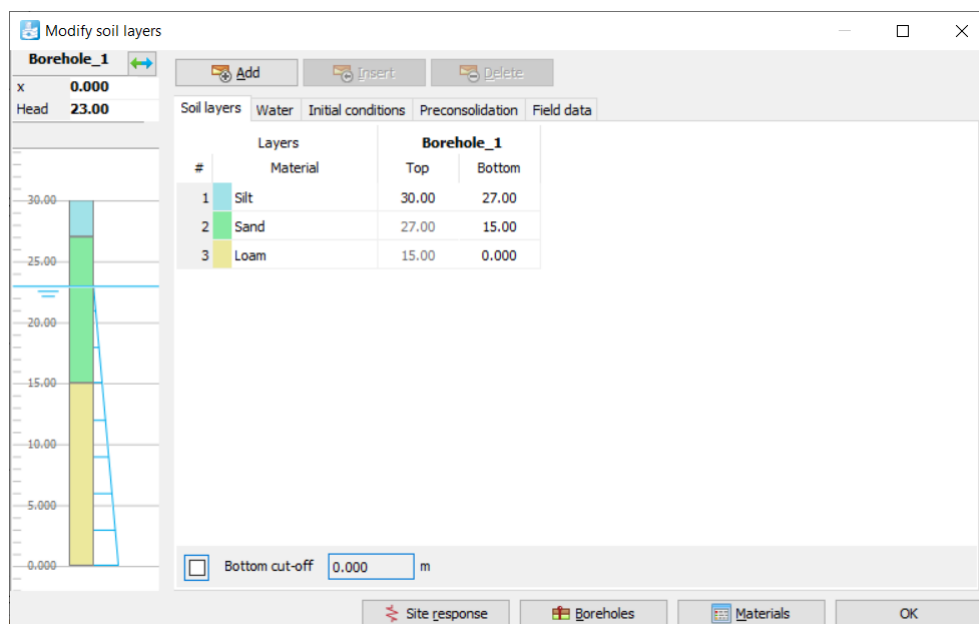

Figure 80: The Modify soil layers window
The layer stratigraphy is shown in Figure 80 (on page 104):
2. Assign the material data sets to the corresponding soil layers (Figure 80 (on page 104)).